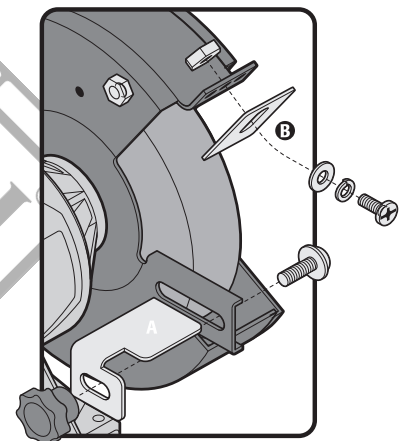

Fig. 1
- The tool includes accessories for both wheels (left and right). Figure 1 shows the correct way to mount the right side of the tool. Repeat the same procedure to mount the left side wheel.
- The smaller screws and washer kits are needed to fix the spark arrester guards (B).
- To adjust the eye protectors (C) in their mounting rods, loosen and tighten the hex screws (D). Loosen enough to be able to easily adjust the eye protectors with your hand but not too much to ensure that they stay in place. Always position the eye protector between your eyes and the grinding wheel.